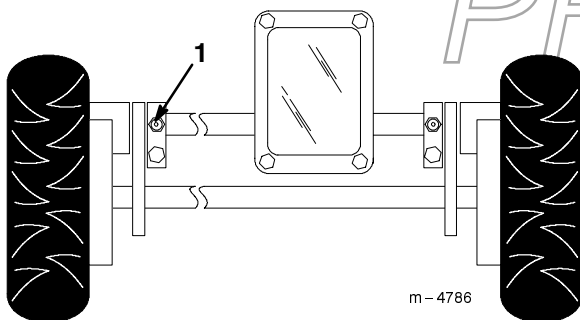

Figure 28
1. Wipe the grease fittings with a clean rag (Fig. 28).